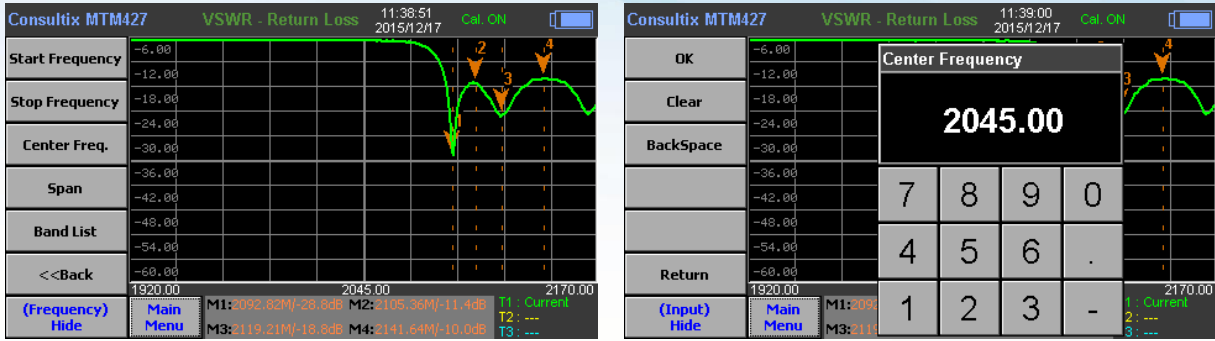

Figure 8: DASMater Frequency Menu in "VSWR" mode
**Frequency:** configures customized frequency band either setting “Start Frequency” & “Stop Frequency” or setting “Center Frequency” & “Span” and other parameters depending on the selected mode (VSWS or DTF) As shown in **figure 8 & 9** respectively.